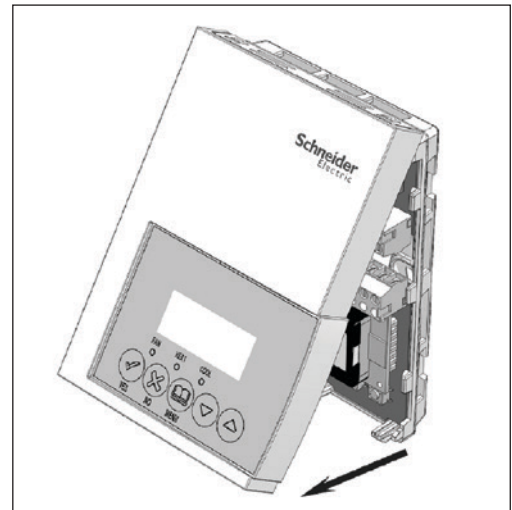

Figure-1 Opening the Cover
- Open the unit by pulling on the bottom side of the Terminal Equipment Controller (Figure-1).